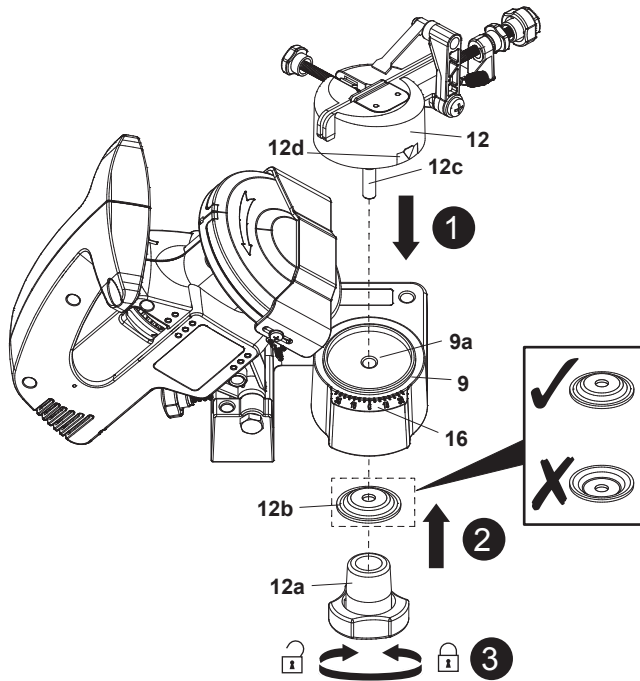

Fig. 2
3. Align and pass the bolt (12c) through the location hole (9a) (Fig. 2, step 1). Ensure that the indication triangle (12d) aligns with the angle scale (16).
4. Attach the cup washer (12b) onto the bolt (12c) (Fig. 2, step 2) and secure the saw chain vice (12) by turning the vice retainer (12a) clockwise. Ensure that the saw chain vice (12) sits properly (Fig. 2, step 3).